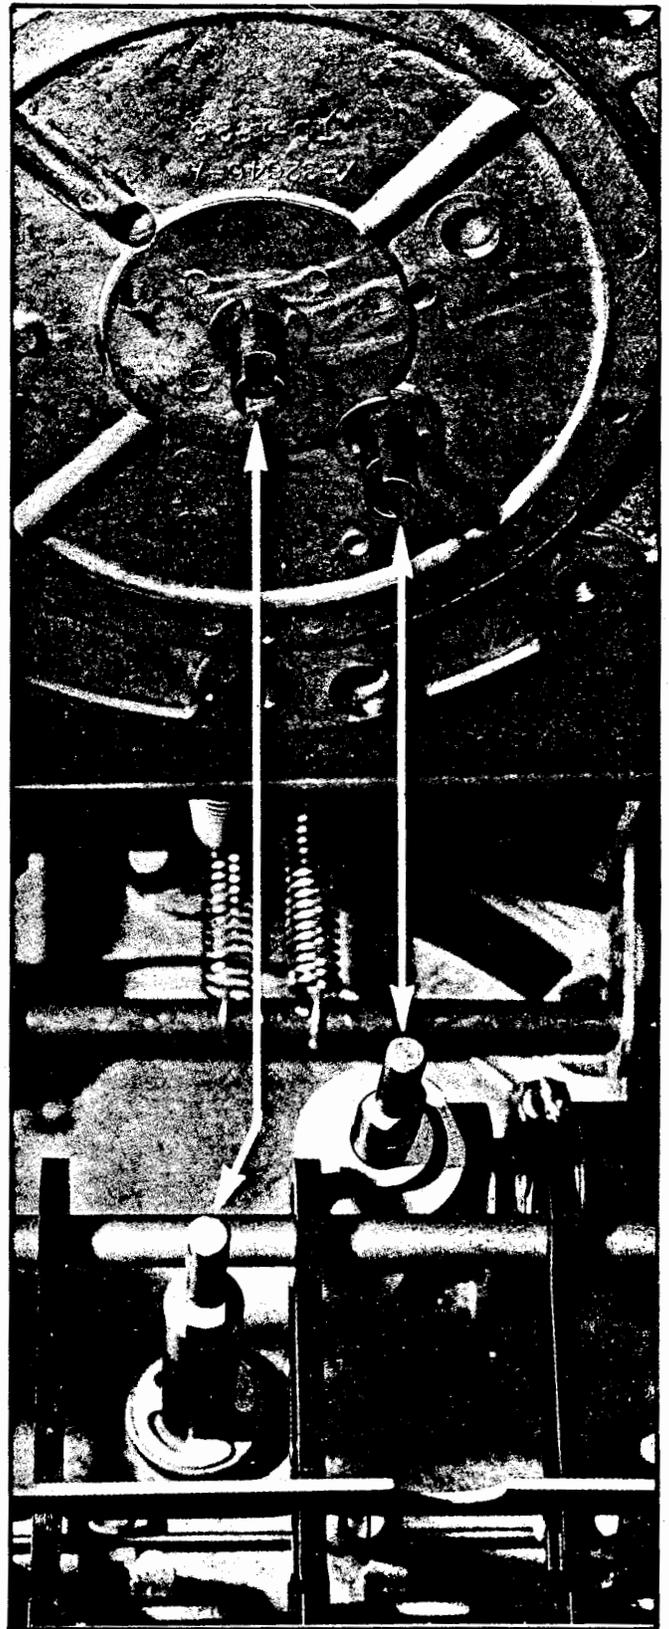

Figure 6-9 Proper Alignment of Shafts on Preset Counter and Coupling on Meter Register.
- G. Install register on top of the preset. The two "up-down" shafts protruding from the register should be aligned to mate with the two shafts in the preset before the two units are mounted together. (Refer to Figure 6-9).